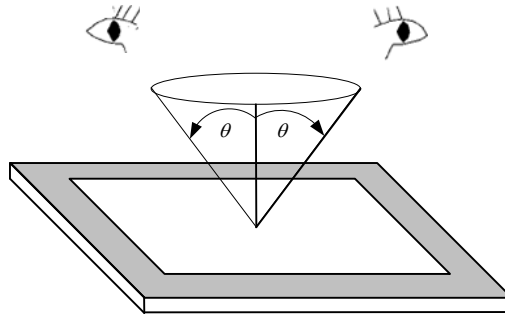

Fig. 10.1
- The viewing zone is defined with angle θ shown in Fig. 10.1 The inspection should be performed within 45° when display is shut down. The inspection should be performed within 5° when display is power on.